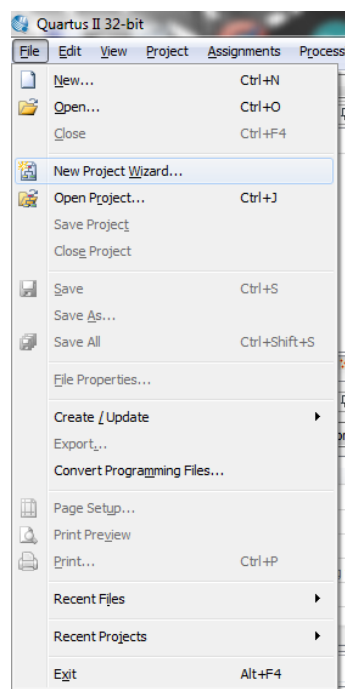

Figure 1: Create a new project menu
1. In order to begin working on your first FPGA project, you must open the program Altera Quartus II. To begin a new project goto **File → New Project Wizard** as shown in figure 1